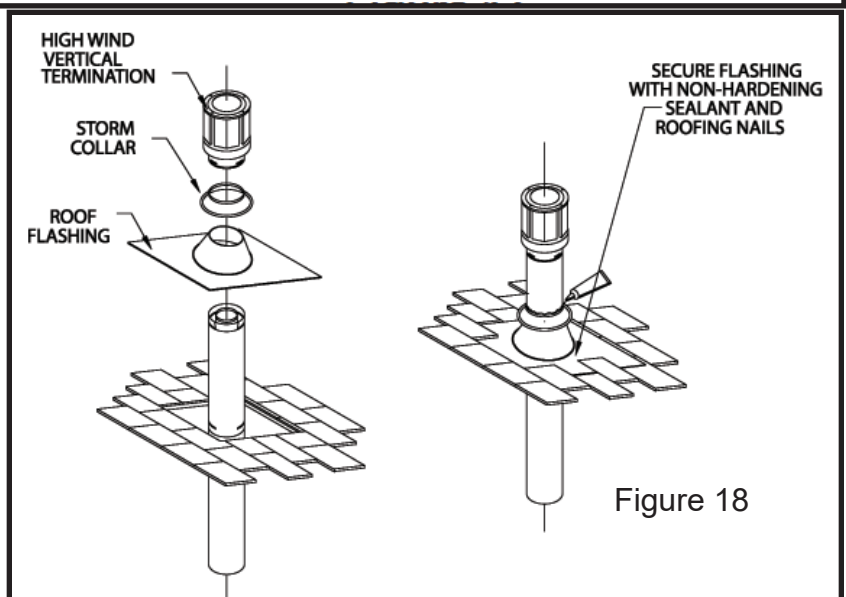

Figure 18
**Step 7.** Slip the Roof Flashing over the Pipe Section(s) protruding through the roof. Use a non-hardening sealant between the Roof Flashing and the roofing to prevent water leakage. Secure the base of the Roof Flashing to the roof with roofing nails. Ensure the roofing material overlaps the top edge of the Roof Flashing (Fig. 18). Verify that you have at least the minimum clearance to combustibles at the roofline and in the attic.
**Step 9.** Slip the Storm Collar over the Pipe Section, and push it down to the top of the Roof Flashing (Fig. 18). Use non-hardening sealant between the Storm Collar and the Pipe Section.
**Step 2.** Using the plumb bob, mark Figure 18 the centerline of the venting system on the ceiling and drill a small hole through the ceiling and roof at this point. From the roof, locate the drill hole and mark the outline of the Cathedral Ceiling Support Box.